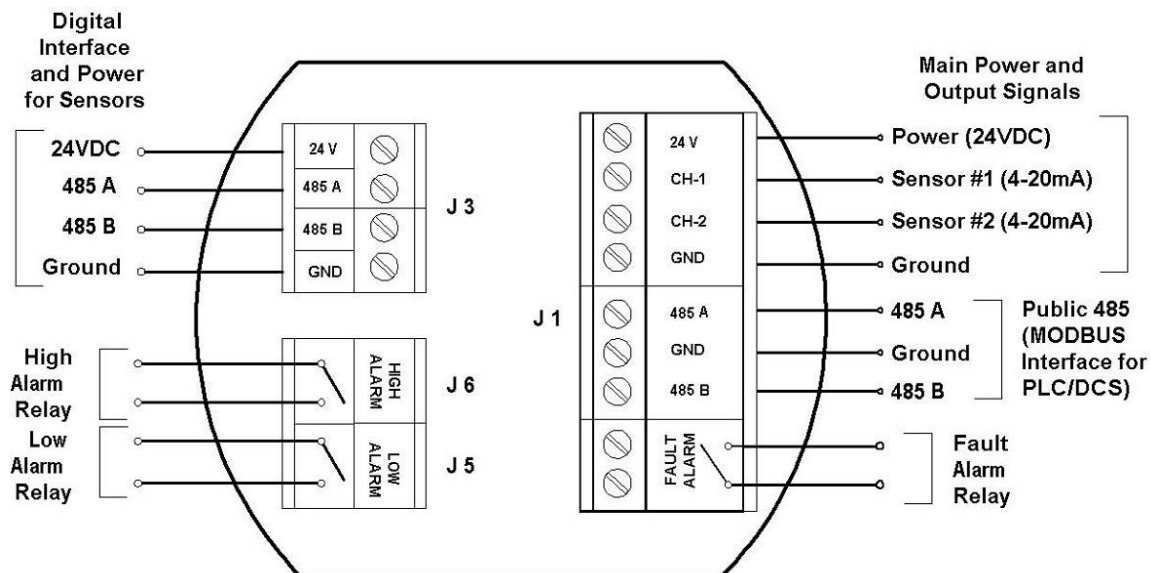
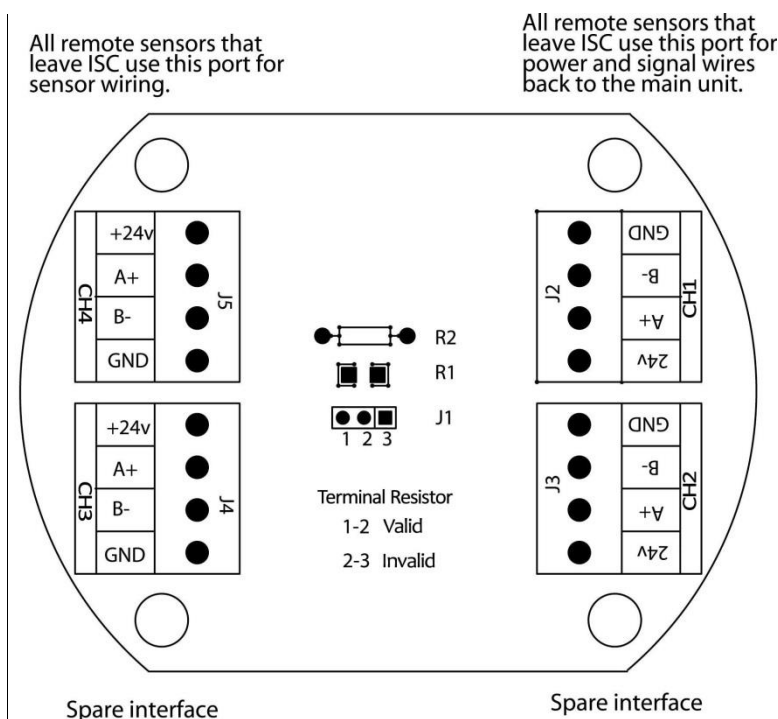
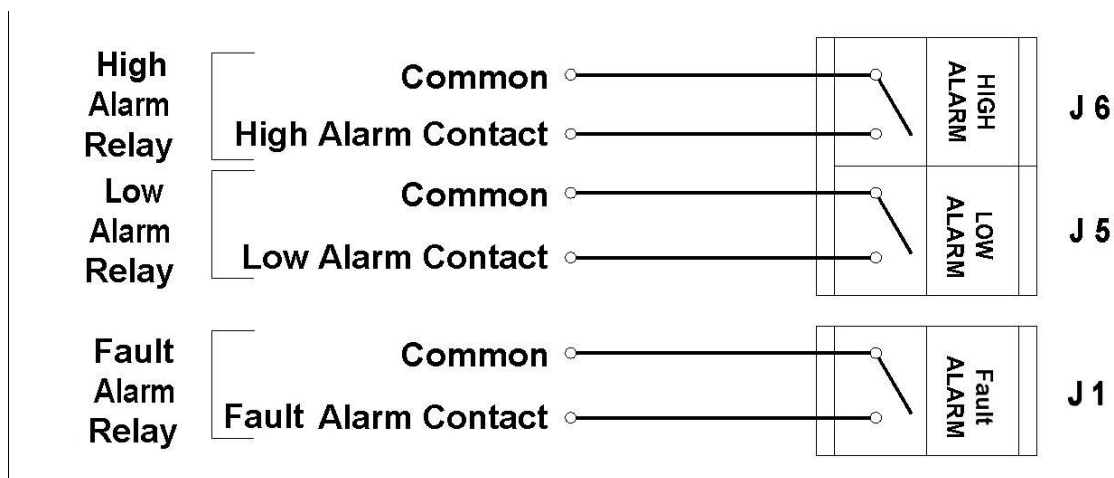

Figure 2-4. Electronics Module for iTrans™ (Main Unit)
Figure 2-5. Electronics Board for Remote Sensor
Figure 4-1. Alarm Relay Connectors J6, J5 and J1
The electronics module of the **iTrans™** gas monitor contains connectors and jumpers for wiring and configuring the device. The electronics module for a main **iTrans™** unit is shown in Figure 2-4. The electronics module for a remote unit is shown in Figure 2-5. Wiring details are explained in Chapter 4: System Wiring.
To connect the **iTrans**[™] control wires to the three relay terminals on the relay board, wire the unit to the connectors shown in Figure 2-4. The **low alarm relay** is activated when the low alarm threshold is met. This is a non-latching, Normally Open (NO) contact. The **high alarm relay** is activated when the high alarm threshold is met. This is a non-latching, Normally Open (NO) contact. The **fault alarm relay** is activated upon power-up of the **iTrans**[™]. When the fault condition is met, the circuit opens. This is an Electronically closed (NO) contact. See Figure 4-1 for relay wiring.